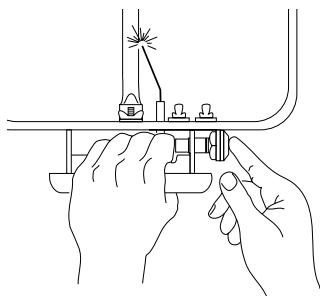

Figure 11
2. Hold the handle of the bottom unit while pushing the igniter button 2 or 3 times. Figure 11.